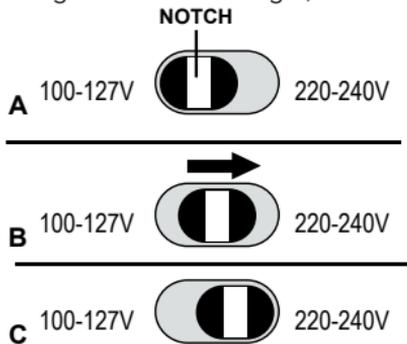

FIGURE 1
1. Locate Voltage Selector, recessed inside slot at rear of Main Body. Note the open notch in middle of Voltage Selector (FIGURE 1-A).
3. Carefully insert tip of pen into notch. Slide Voltage Selector to the right, towards 220-240V label (FIGURE 1-B).
IMPORTANT: Be sure that Voltage Selector is moved as far to the right as possible for voltage setting to take effect correctly. Voltage Selector should appear as shown (FIGURE 1-C).